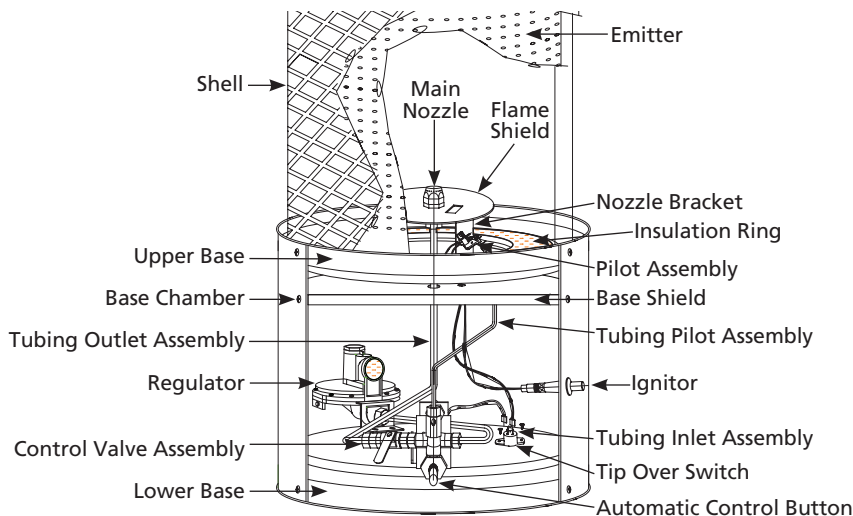

Figure 4 – RA250NGDGD Part Identification
4. Push in and hold safety valve button while pushing ignitor button until pilot lights (see Figure 4).